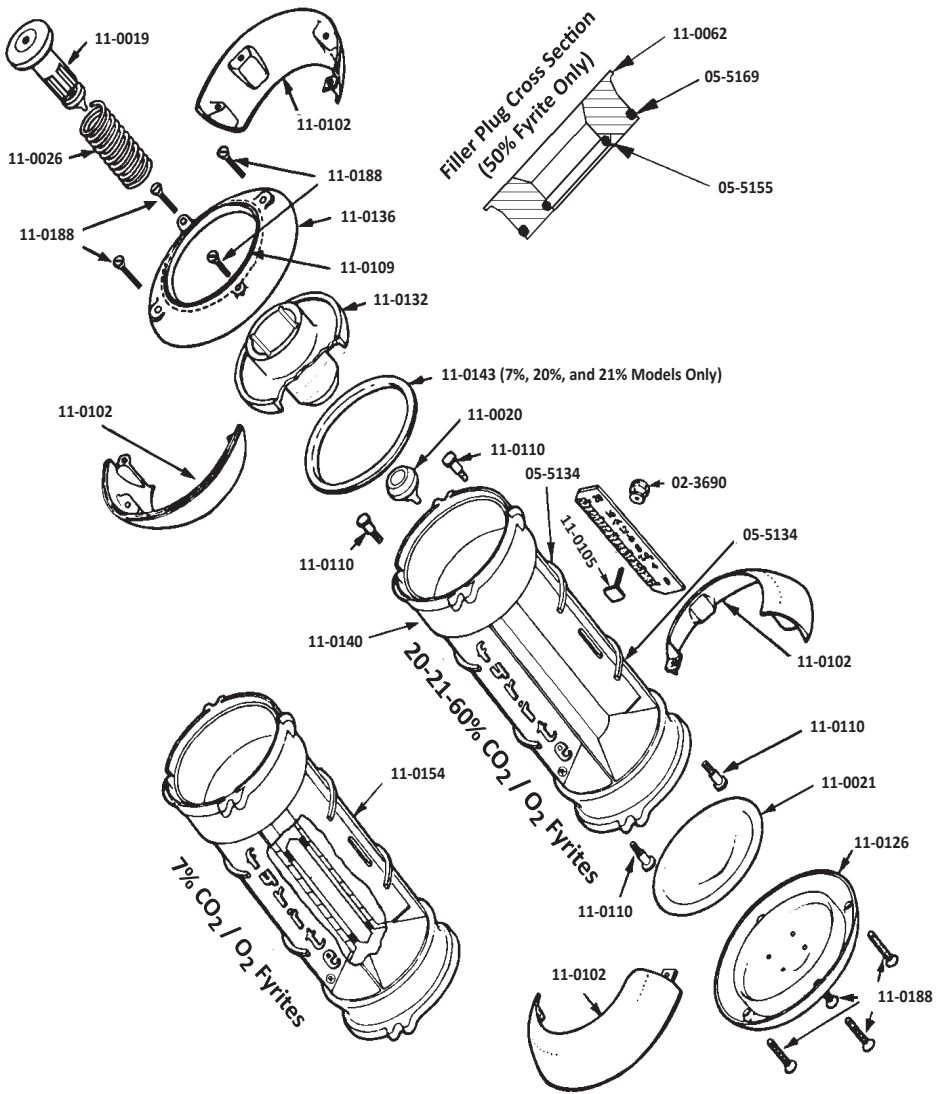

Figure 33. FYRITE parts breakout.
CO₂ / O₂ FYRITEs: Make certain that Top Cap Ring Gasket (11-0109, Figure 33) is in place between metal Top Cap Ring and plastic Top Cap. Draw the 4 machine screws down with light screwdriver force.
6.6 Replacing FYRITE Plastic and Rubber Parts (Refer to Illustrated Parts List FYRITE CO₂/O₂ [Section 7.0 and Fig. 33])
7.0 ILLUSTRATED PARTS LIST FYRITE CO₂/O₂ (Refer to Figure 33 FYRITE Parts Breakout)